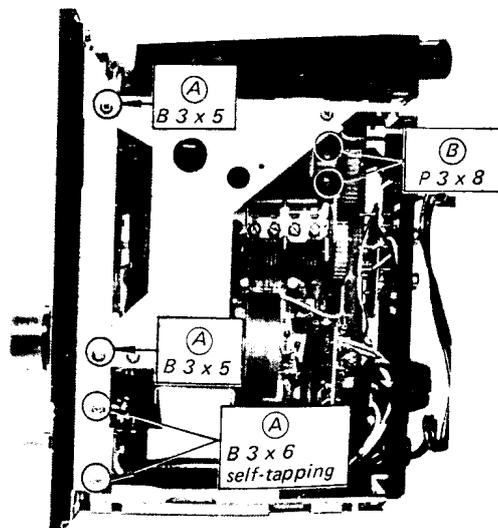
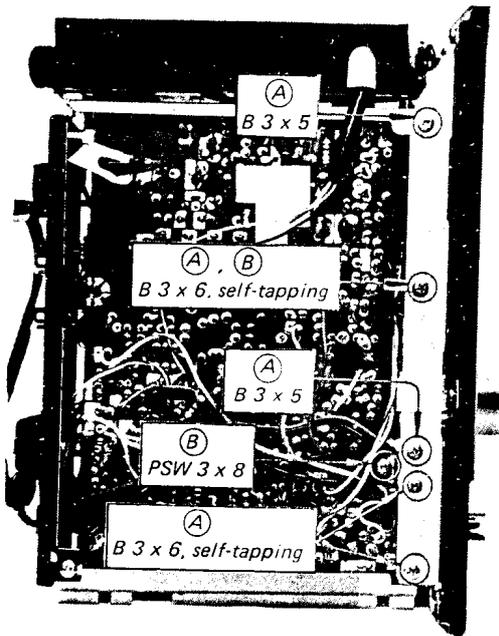

Fig. 2-4. Front subchassis removal
Fig. 2-5. Front subchassis removal (2)
2. Remove the nine screws (A) as shown in Fig. 2-4 and Fig. 2-5.
4. Loosen the two screws ( B ) as shown in Fig. 2-4.
5. Remove the two screws ( B ) as shown in Fig. 2-5.